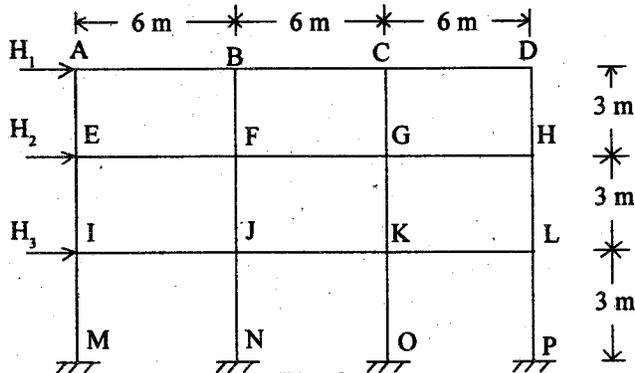

Fig. 3
- (b) Analyse the multistorey frame shown in Fig. 3 for moments in the ground floor columns IM, JN, KO and LP and the beams IJ, JK and KL. Adopt the following data : Length of beam = 6 m, Height of column = 3 m, Wind loads are $H_1 = 6$ kN, $H_2 = 12$ kN, $H_3 = 12$ kN. The columns have the same cross-section. Compare the results of the portal and cantilever methods of analysis.